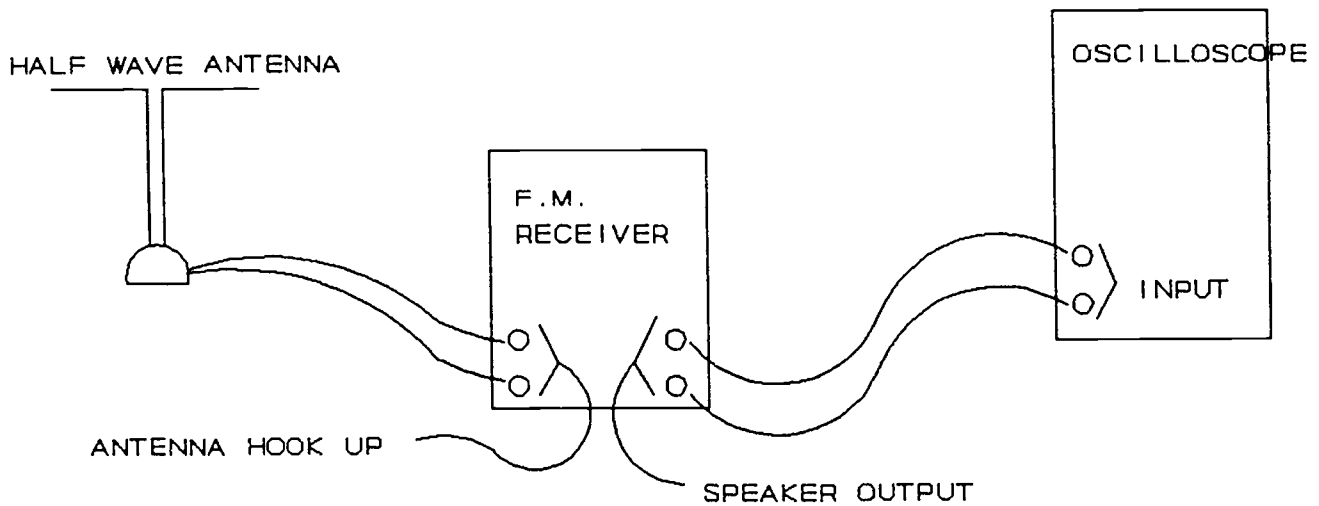

Figure C-6-9
7. Connect the horizontal half-wave receiving antenna, frequency modulated receiver, and the oscilloscope as shown in Figure C-6-9, "FM Receiver Hookup." Align the receiving antenna ends parallel to the 270 and 90 degree lines of the transmitting antenna axis.